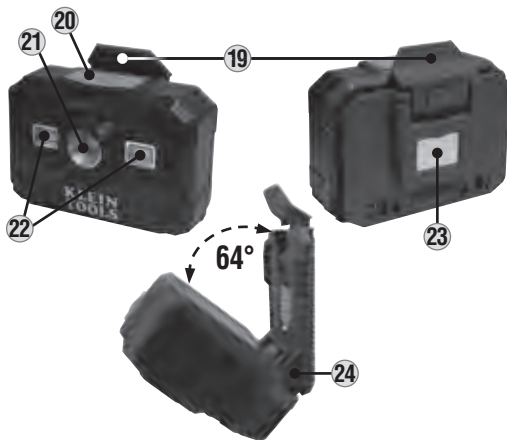

FIG. F2
STEP 1: Insert a small blunt-nosed tool (such as long-nosed pliers) into the round opening to press the release tab as shown in FIG. F2.